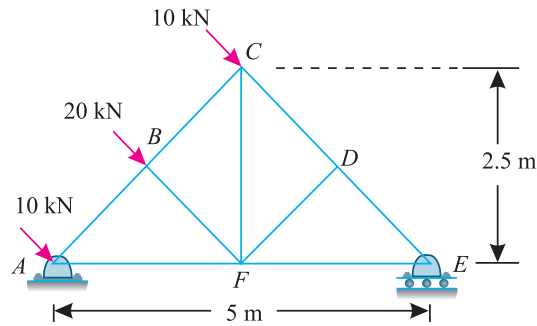

Fig. 12.39.
4. A truss of 5 m span and 2.5 m height is subjected to wind load as shown in Fig. 12.39.